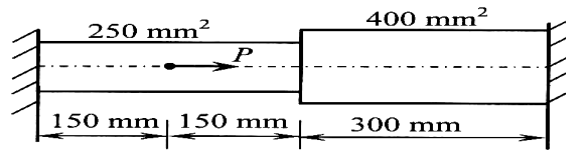

Fig. Q6
6. Determine the nodal displacements, elements stresses and support reaction of the axially loaded bar shown in Fig.Q6. Take $E = 200 \text{ GPa}$ and load $P = 300 \text{ kN}$. 20